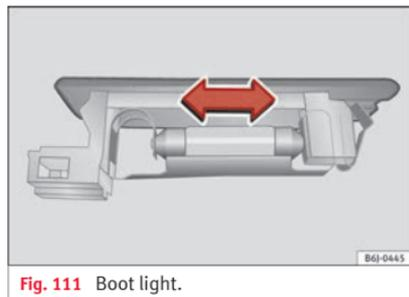

Fig. 111 Boot light.
- Press the bulb sideways and remove it from its housing »» **Fig. 111**.